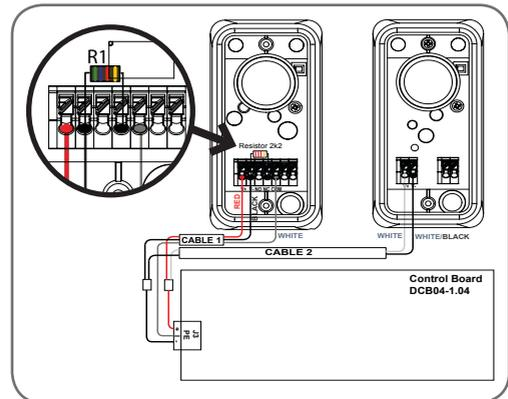
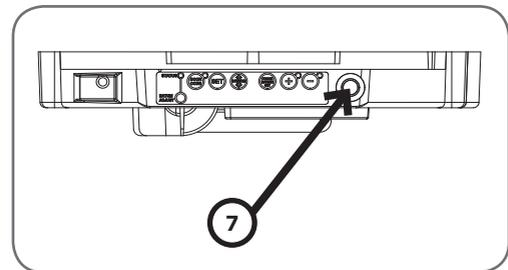
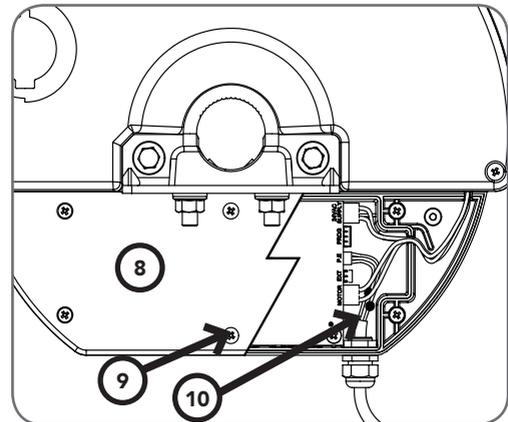

Fig. 6.10
Fig. 6.11
Fig. 6.12
A resistor 2.2kOhm is required to detect a short in the wiring of the PE Beam Receiver. The supplied resistor is to be used inside the PE Beam Receiver. Install the 2.2kOhm resistor in the PE Beam Receiver between the V- and NC terminals. Refer to the wiring diagram (Fig 6.10). Remove membrane (7) (Fig 6.11). Undo 6 taptite screws (9) M4x 3/8" and open control cover (8) (Fig 6.12). Connect the supplied Harness (10) to the IR2000TS set (3 core cable (Cable1) to Receiver; 2 core cable (Cable2) to Transmitter) from one side and to the J3 of the DCB04 control board from other side.
**WARNING:** Install the Safety Beams as per diagram in (Fig.6.10). Tampering with the Safety Beams could result in serious personal injury and/or property damage and will void the warranty.